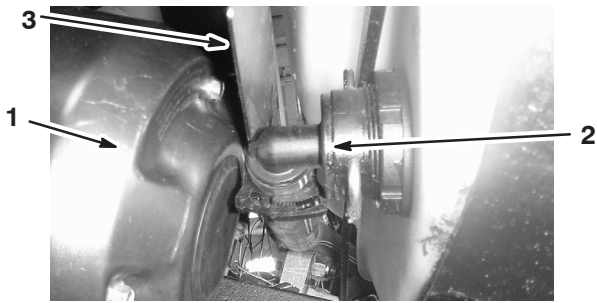

Figure 55
3. Disconnect the hose located on the lower-front face of the tank (Fig. 55).
Note: You may need to push the heat shield (Fig. 55) back as you remove the cover.
7. Connect the hose on the front of the tank (Fig. 55).